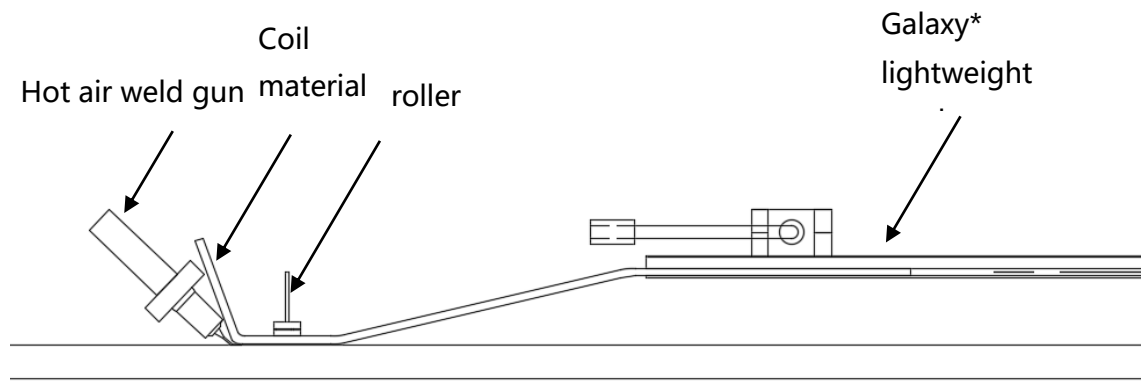
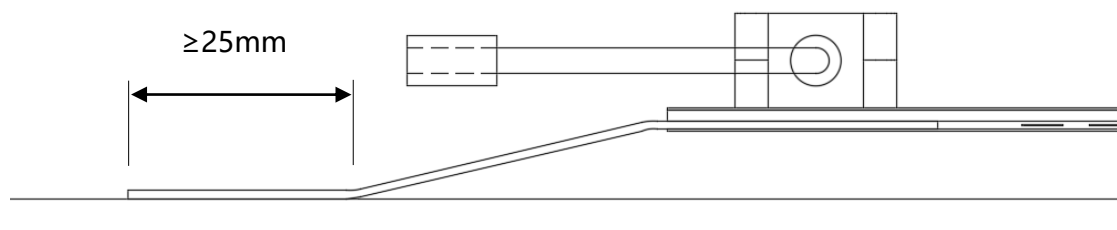
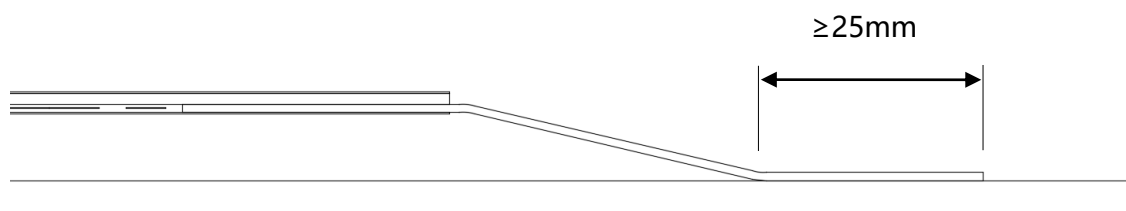

Figure 9
Figure 10
Figure 11
- After fixing the head and coil of the Galaxy* lightweight products, use the hot air welding gun along the coil for full welding. Use rollers gently on the coil roll pressure when welding (as Figure 9) to ensure that the coil secured to flat roofing. The effective welding width of the head and tail coil should be at least 25mm (such as Figure 10, such as Figure 11).